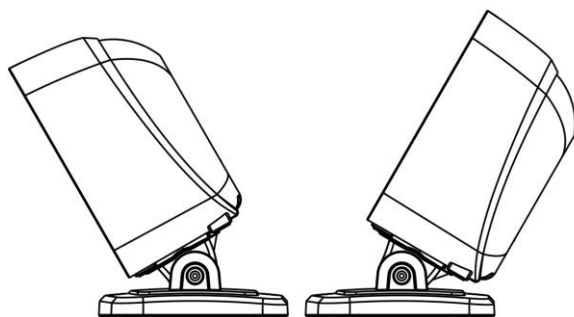

Figure 5-3
3. As shown in Figure 5-3, adjust the image platform forward/backward for a desired position.